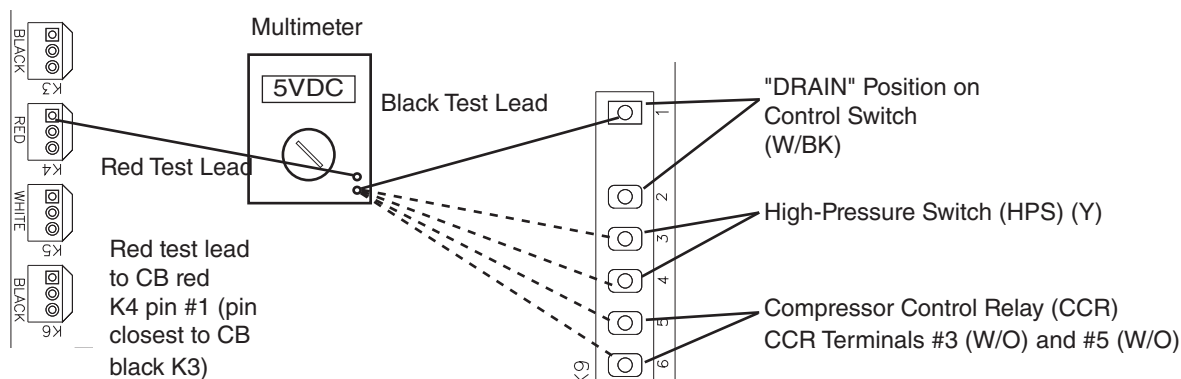

Fig. 1
- b) 2 circuits at CB K8 connector: Bin control (BC) and float switch (FS upper and lower).
- (1) **5VDC CB K9 Connector:** See Fig. 1.